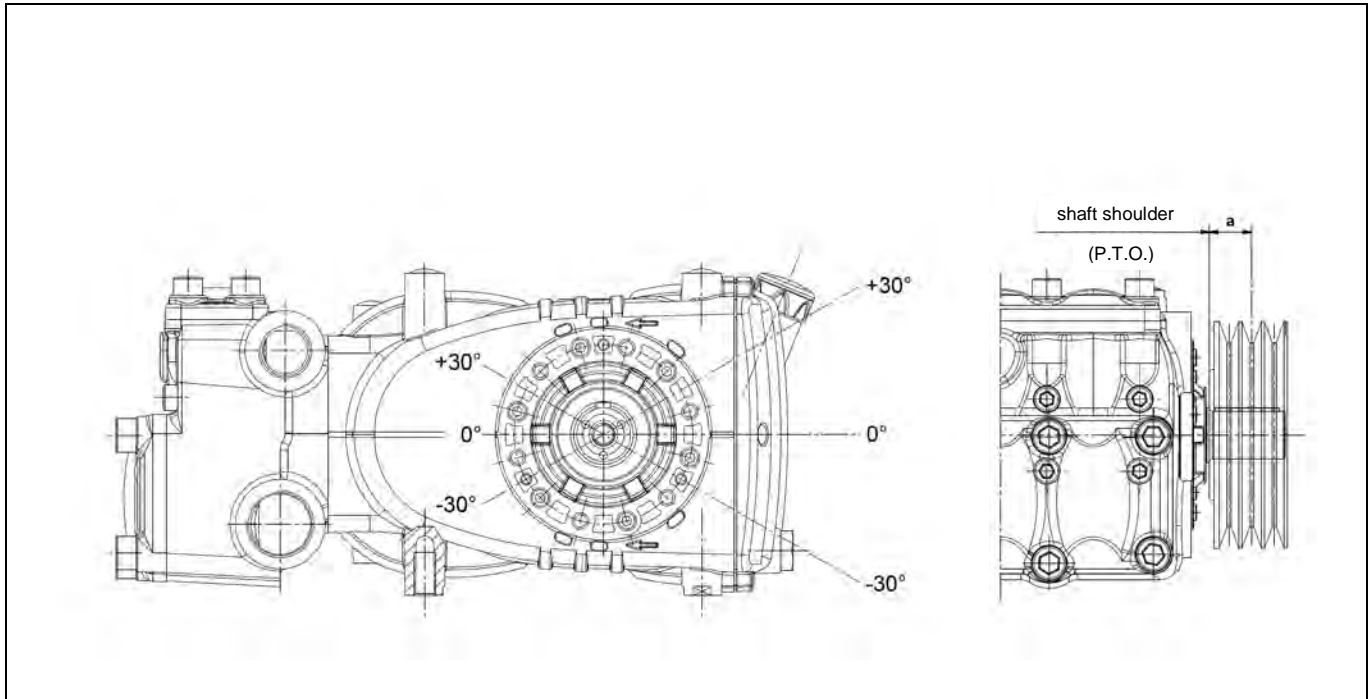

fig. 10
The radial load on the shaft must not exceed 4500 N (value necessary for Layout definition). The transmission is considered adequate if the load is applied to a maximum distance  $a=50$  mm from the shaft shoulder (P.T.O) as shown in fig. 10.
- b) Use high performance belts – for example **XPB** instead of **SPB** – as a lower quantity of belts for the same transmitted power may be necessary and a consequent shorter resulting distance compared to the shaft shoulder (P.T.O). "a" of fig. 10
- e) Follow the direction of the belt pull as shown in fig. 10; for other needs, contact **our Technical or Customer Service Departments**.